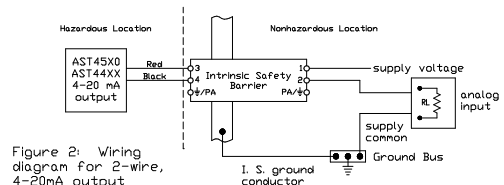

Figure 2: Wiring diagram for 2-wire, 4-20mA output
1. For installation in accordance with Fig 2, barrier must be a CSA Certified, Single Channel grounded Shunt-Diode Zener Barrier or a Single Channel Isolating Barrier.